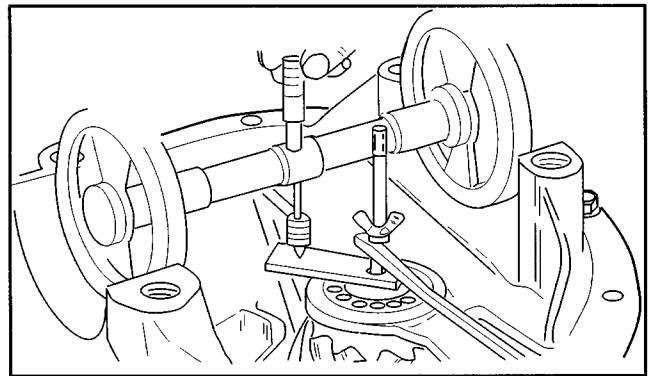

Figure 23
3. Remove any burrs and wipe clean differential bearing bore I.D.'s. Turn micrometer 90 deg. to step plate. Install assembled pinion setting gauge into bearing bores of carrier housing until fully seated. Adjust micrometer so it is directly over end of step plate. Run the micrometer thimble down to measure the distance between the center of the ring gear and the step plate. (See Figure 23) **Make a note of this dimension.**